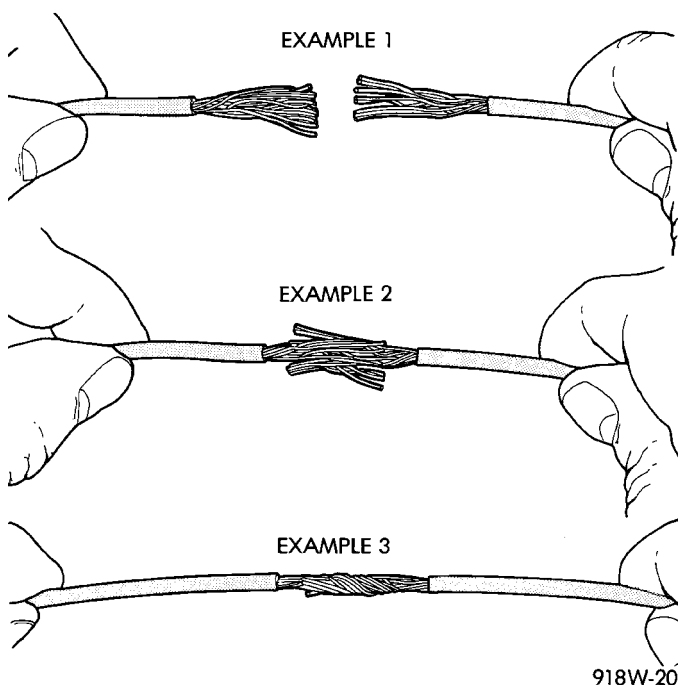

Fig. 13 Wire Repair
(2) Remove 1 inch of insulation from each end of the wire.
(3) Place a piece of heat shrink tubing over one side of the wire. Make sure the tubing will be long enough to cover and seal the entire repair area.
(4) Spread the strands of the wire apart on each part of the exposed wire (example 1). (Fig. 13)
(5) Push the two ends of wire together until the strands of wire are close to the insulation (example 2) (Fig. 13)
(6) Twist the wires together (example 3) (Fig. 13)
(7) Solder the connection together using rosin core type solder only. **Do not use acid core solder.**
(8) Center the heat shrink tubing over the joint, and heat using a heat gun. Heat the joint until the tubing is tightly sealed and sealant comes out of both ends of the tubing.
(9) Secure the wire to the existing ones to prevent chafing or damage to the insulation
(10) Connect battery and test all affected systems.